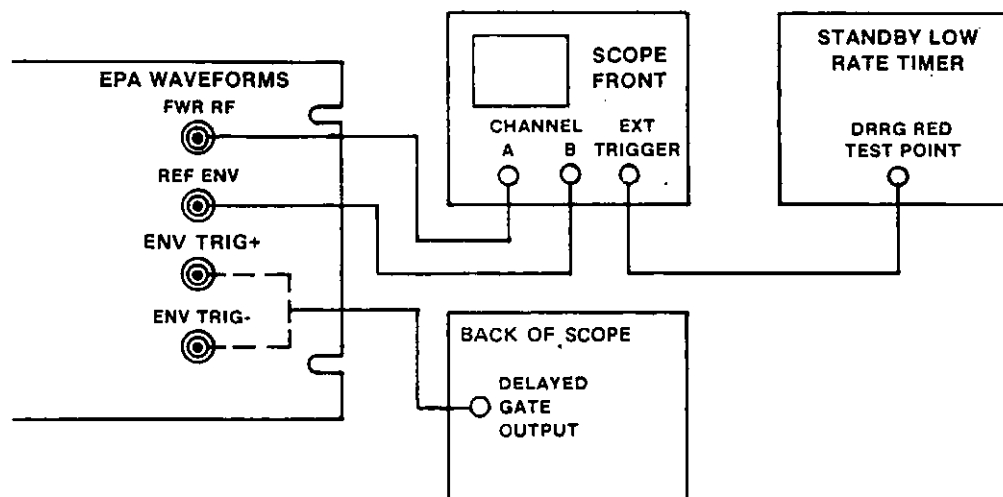

Figure 2.17. Oscilloscope Connections for Monitoring EPA Waveforms
2.15. Connect the dual full wave rectified RF, Reference Envelope, and chart recorder drive as follows (see Figure 2.17):